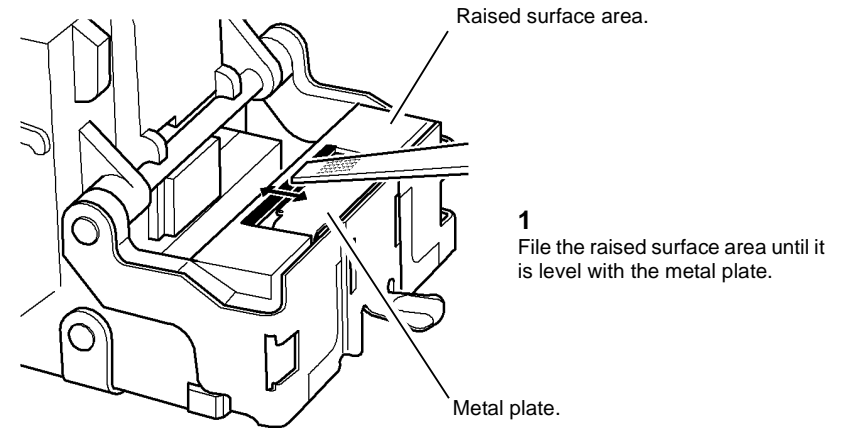

Figure 11 Staple cartridge
- Figure 11. Hand file a chamfer on a 100 sheet capacity staple cartridge.